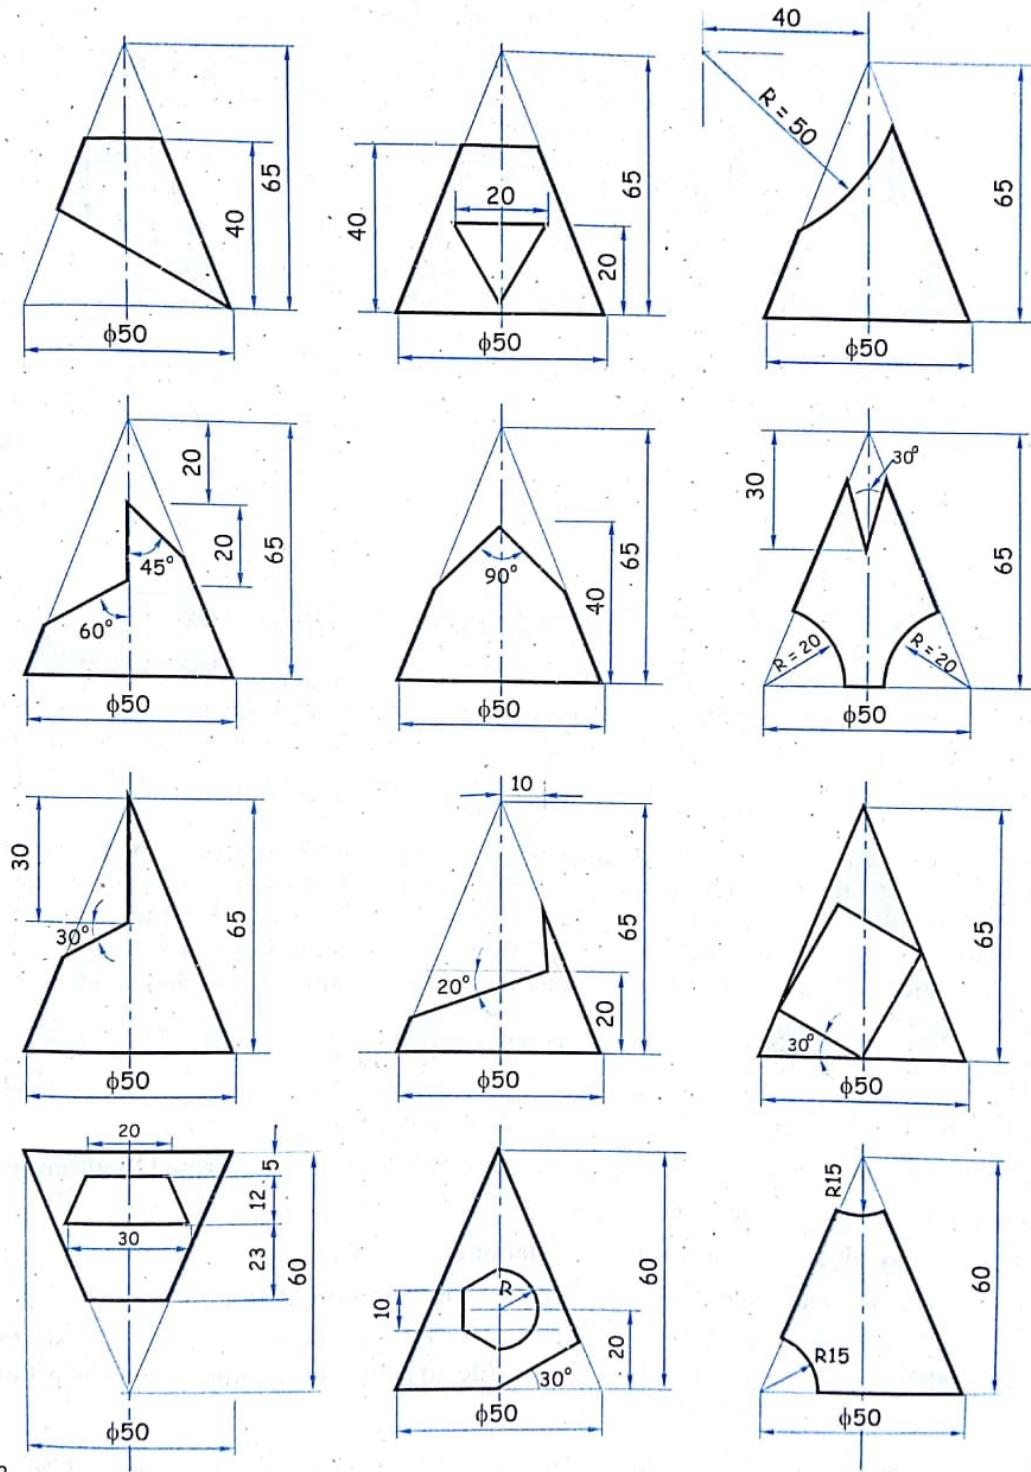

FIG. 12.82
56. F.V. of the cone of 50 mm diameter and axis length 65 mm are cut in different ways as shown in figure 12.82. Draw the D.L.S. of retained portion of cone.